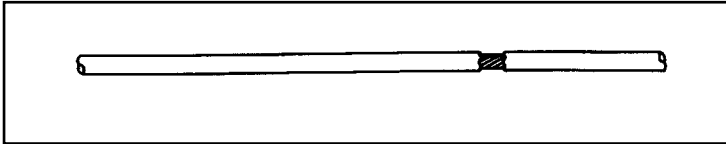

Figure 1
- A tear or crack in the cable sheath that exposes the cable. See Figure 1